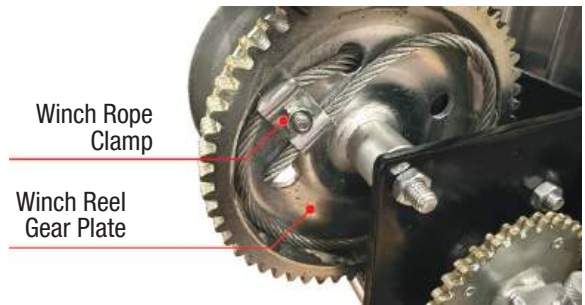

Figure 4-2: Winch Rope Clamp
6. Using 7/16" wrench or socket, loosen and remove the winch rope clamp on the winch reel (see Figure 4-2). Remove the cable from the winch reel.
14. Rout the cable end through the winch reel gear plate. Make sure the cable is nested within the recess of the gear plate as shown in Figure 4-2. Using 7/16" wrench or socket, attach the winch rope clamp over cable and tighten.